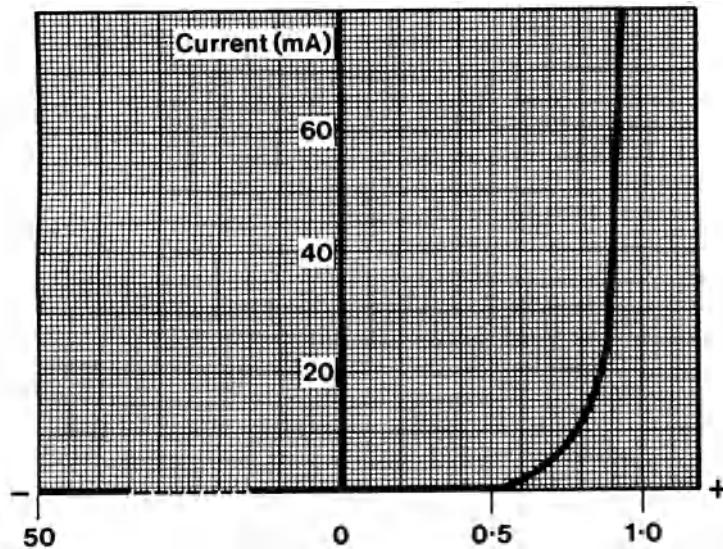

FIG. 3.58
- (i) Explain why the neon lamp flashes regularly. (3)
- (ii) Suggest two methods of decreasing the flash rate. (2)
43. Fig. 3.58 shows approximately how the current through a silicon diode varies as the p.d. across the diode is altered over a range of  $-50$  V to  $+1.0$  V.